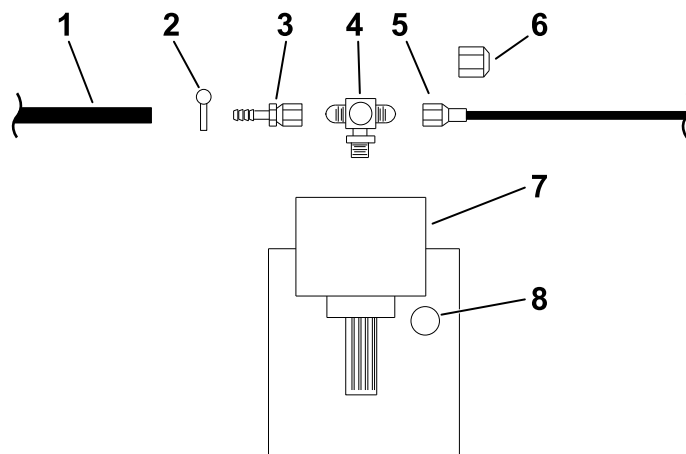

Figure 19
1. Install the tee fitting to the power takeoff (PTO) on the machine (Figure 19).
2. Slide the hose clamp over the filter-return hose (Figure 19).
3. Insert the barb fitting (Part No. 01-201-4500) into the filter-return hose (Figure 19).
4. Use the hose clamp to secure the barb fitting (Part No. 01-201-4500) to the filter-return hose (Figure 19).
5. Connect the hydraulic hose (Part No. 01-312-5610) to the tee fitting (Part No. 01-201-4510) as shown in Figure 19.